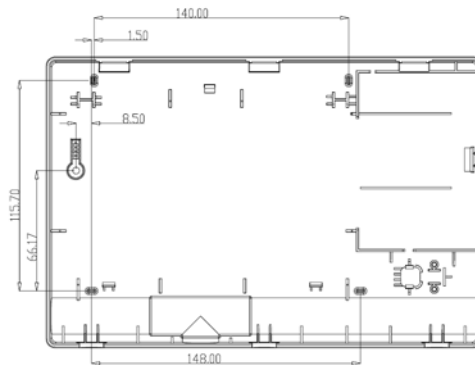

Figure 34: ME-14 Mounting Template
2. Using the ME-14's backplate as a template drill holes in the wall, see also Figure 34 below for dimension reference.